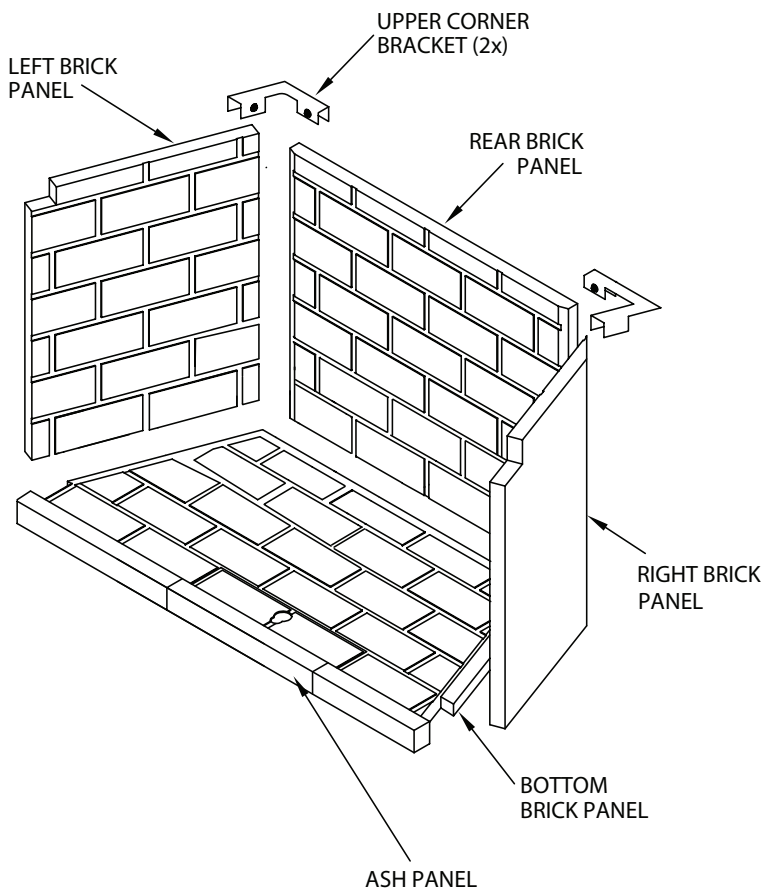

Figure 13 - Installing Refractory Panels
5. Install the upper corner brackets and tighten set screws (Figure 13).